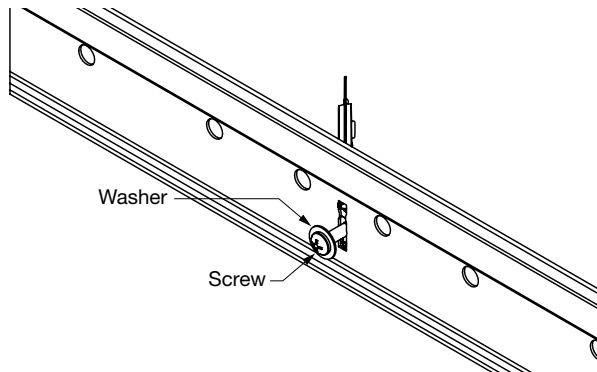

Fig 24
- While holding the bracket in place, insert a screw with a washer into the back side of the bracket (**Fig 24**)